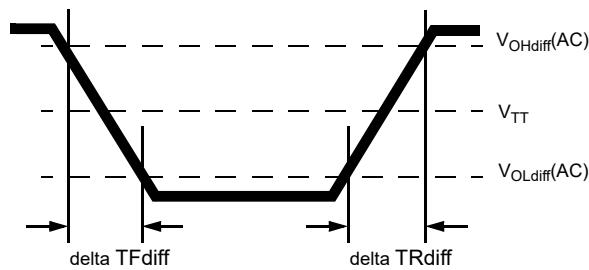

Figure 18. Differential Output Slew Rate Definition
With the reference load for timing measurements, output slew rate for falling and rising edges is defined and measured between VOLdiff(AC) and VOHdiff(AC) for differential signals as shown in Table 31 and Figure 18.